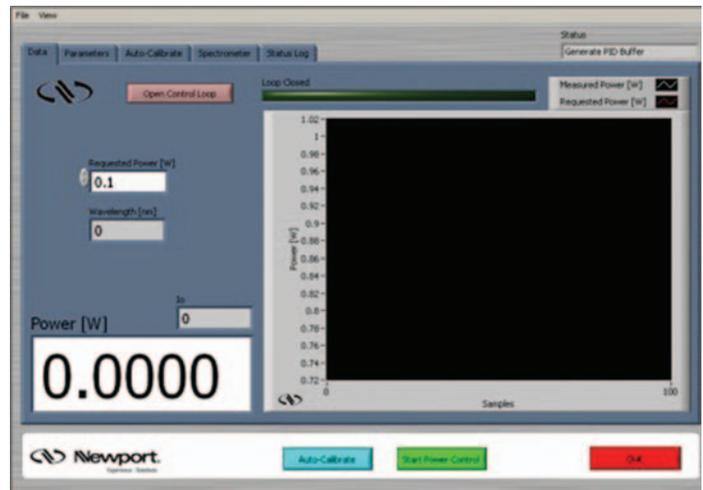
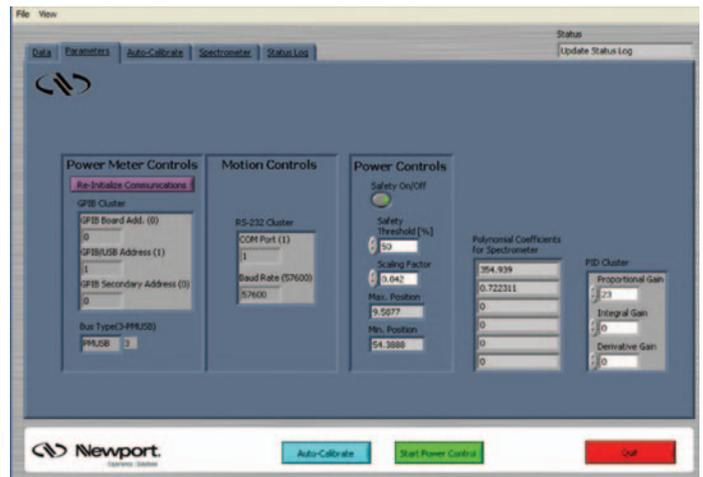
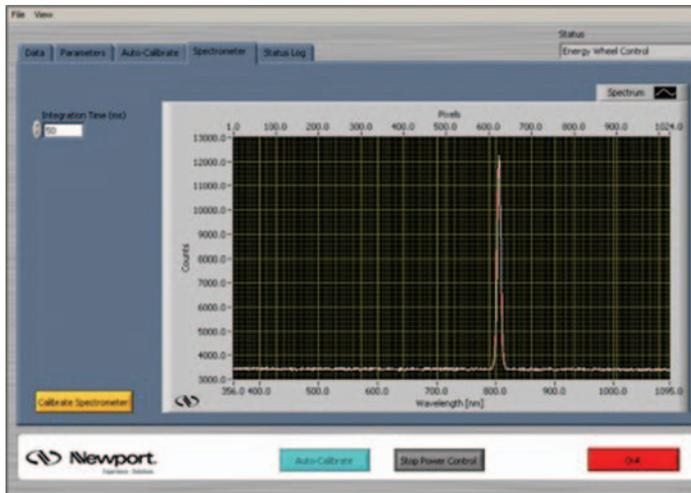
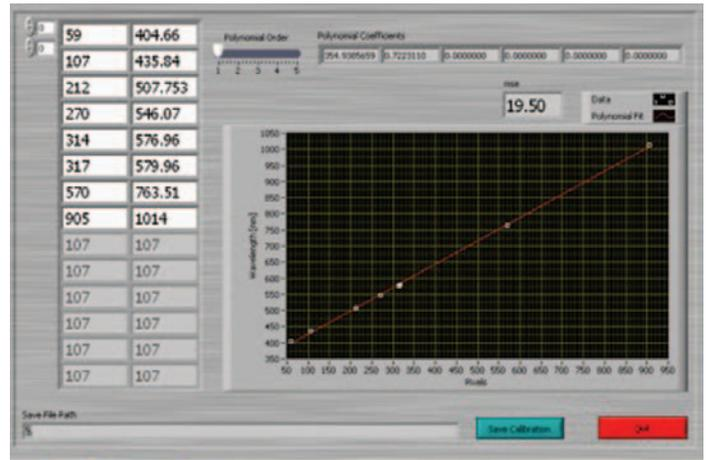

Figure 5. SMC Power Control Data screen
Figure 6: SMC Power Control Parameter window.
Figure 7: SMC Power Control Spectrometer window.
Figure 8: SMC Power Control Wavelength Calibration window.
Open the SMC Power Control software (available from Newport’s pre-sale support ((800) 222-4640). Upon opening the program, the Data screen is displayed (see Figure 5). Select the Parameters tab (see Figure 6). Under this tab are the control settings for this device, including the hardware addresses and the settings for the PID control. Initially, leave the PID settings to the default values.
Select the Spectrometer tab (see Figure 7). Initially, set the integration time to 50 ms and run the spectrometer. The graph displays intensity (counts) vs. pixel number. Wavelength is calculated from a calibration file, and displayed in the Data window (see Figure 5). Turn on the laser and observe the signal. If the spectrum is below the level of noise, increase the integration time. Note that increasing the integration time also decreases the bandwidth of this device, thus slowing down the operation of the attenuator. More likely, it will be the case that the spectrometer is saturated (more than 55000 counts). If this is the case, the integration time can be reduced; however, neutral density filters as well as diffusers (cosine correctors) can also be inserted into the beam path to reduce the amount of light incident on the spectrometer.
The SMC Power Control software comes preloaded with a wavelength vs. pixel calibration file. This calibration will suffice for power control applications since the accuracy of the device need only be on the order of a few nanometers. However, if the spectrometer is to be used quantitatively, it may be necessary to manually re-calibrate the spectrometer. If this is the case, collect the spectrum of the known source. Determine the pixel number of the peaks using the intensity vs. pixel graph. Select the Calibrate Spectrometer key (see Figure 7). A screen with two columns and a graph of pixel number vs. wavelength will appear (see Figure 8). Deselect
As mentioned earlier, the software runs in closed loop. This means that the ½ wave-plate is continuously dithering, which may adversely affect some experiments. If this is the case, the user has the option to open the loop by selecting the Open Loop button. When the Open Loop button is selected, all gains (proportional, integral and derivative) are set to zero, thus disabling any wheel movement. Deselecting the Open Control Loop button (see Figure 5) returns all of the gains to their previous values.
The Power Control software will also attempt to correct slow fluctuations in laser output. Because of this, if the laser is blocked, the ½ wave-plate will compensate by moving into a position corresponding to maximum transmission. Unblocking the beam will then temporarily deliver full power on target until the wave-plate has time to respond. This may result in optical damage to components or a sample positioned after the attenuator. To prevent this, a safety feature is built into the PID loop. If the laser power fluctuates by more than a user specified percentage, the software automatically opens the loop. When this happens, the error is logged and the user can reset the loop by deselecting the Open Loop button. The default percentage setting is 50%, but this value is free for the user to modify under the Parameter tab. When operating at attenuation levels higher than 100 times, care must be taken to block the scattered light from the detectors. In this case, it is also recommended to turn the safety feature off (see Figure 6).